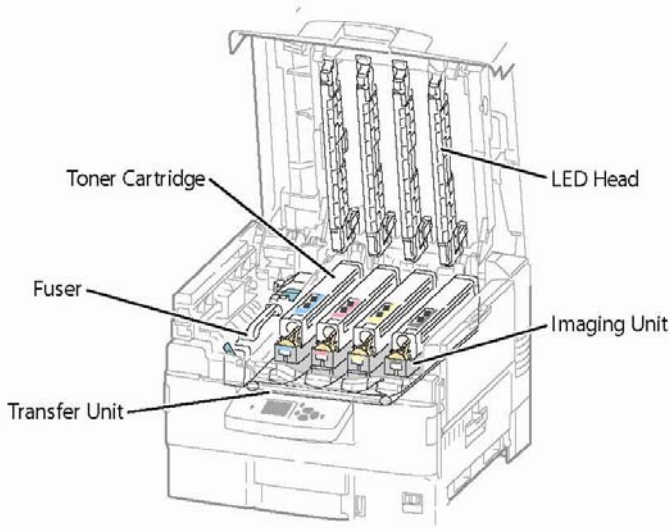

Figure 1
**Figure 1** gives an overview of the printer, the toner, and drum (Imaging) units as they all relate to each other. Note that these machines are not laser printers. They are LED printers. Each color has a bank of LED's that write the image to the drum.